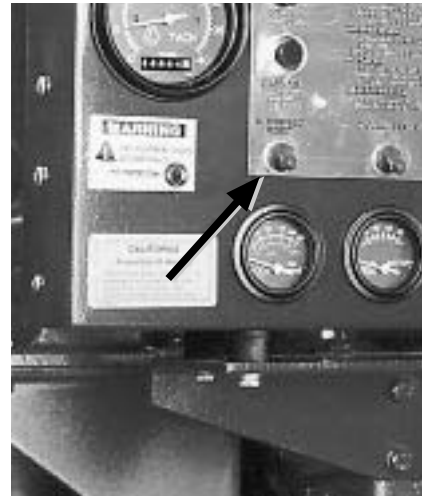

Fig. 8 - Overspeed Reset
1. OPEN COOLING SYSTEM MANUAL BYPASS VALVE. Located on the cooling loop, Fig. 8, Page 29.
Figure 7, Page 32 shows the instrumentation panel which contains the following gauges: tachometer with integral hourmeter (1), engine oil pressure (P.S.I.) (2), battery voltmeter (3), engine coolant temperature (°F) (4), battery isolator (5). Engine overspeed switch is mounted to rear of gauge panel Figure 8.
overspeed condition. The reset button is shown in Fig. 8, Page 33.